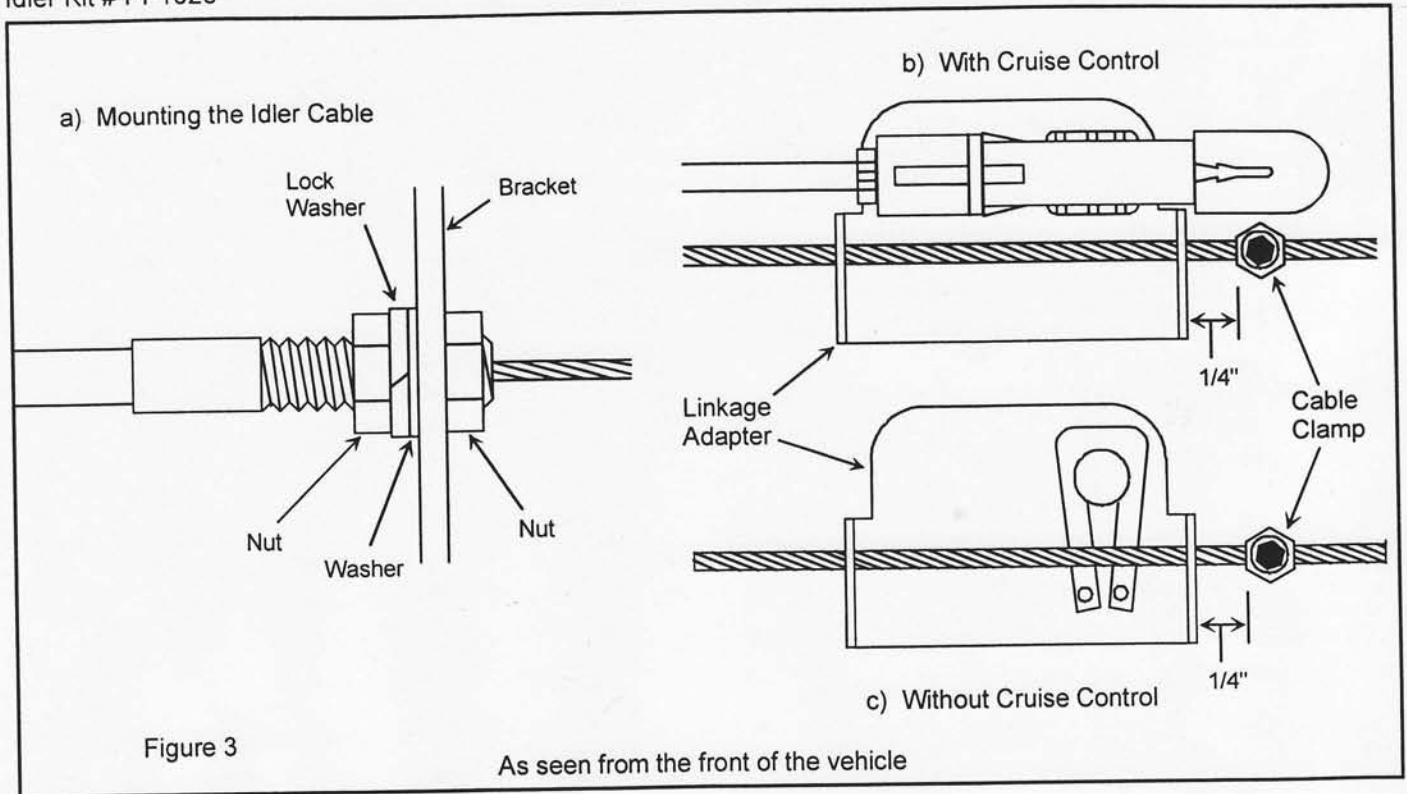

Figure 3
22. Using a couple of 9/16" wrenches, mount the Idler cable to the throttle bracket with one lock washer and one flat washer exactly as shown in Figure 3-a.
24. Slide the linkage adapter and cable clamp onto the idler cable. Slide the linkage adapter onto the cruise control pivot. The tabs on the linkage adapter should be pointing toward the front of the vehicle with the cable passing through them. The tabs and cable should be below the cruise control pivot. Re-attach the cruise linkage to the cruise pivot as in Figure 3-b. If the vehicle does not have cruise control then slide the U-shaped retainer clip onto the cruise control pivot in front of the linkage adapter and crimp the open end closed as in Figure 3-c.